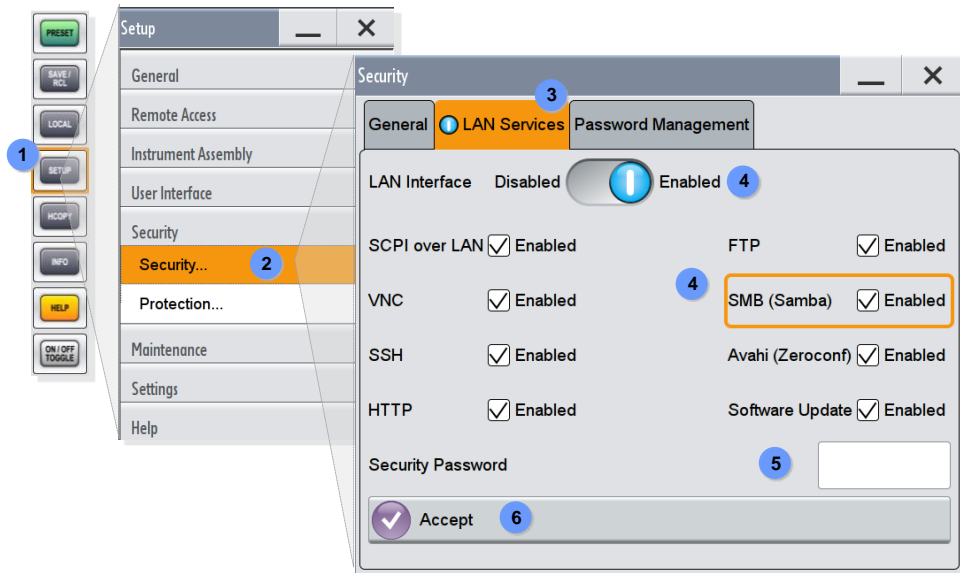

Figure 17: Enabling of SMW File System mapping
② The mapping process is started by pressing the 'Finish' key.
③ Before enabling the user to map the file system the SMW requests the 'User name' and the related 'Password'. Both parameters are set to 'instrument' by default. The assigned password can be changed via the SMW 'Security' menu (see *Figure 17*, step ②, Password Management).